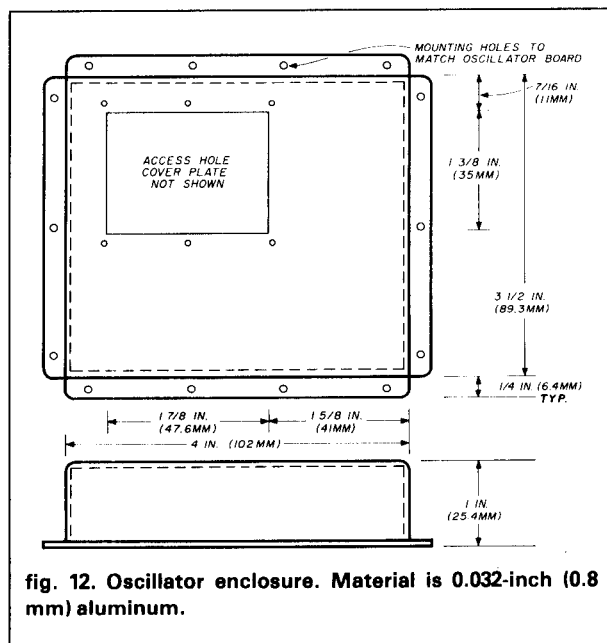

fig. 12. Oscillator enclosure. Material is 0.032-inch (0.8 mm) aluminum.
The mechanical details of the aluminum shield cover that encloses the uhf oscillator are shown in **fig. 12**. The 2-56 (M) screws used to mount the shield cover on the board also interconnect the groundplane foils on opposite sides of the board. Since initial tests will be made without the enclosure, it will be necessary to insert the screws and temporarily secure them with nuts to simulate the grounding condition.